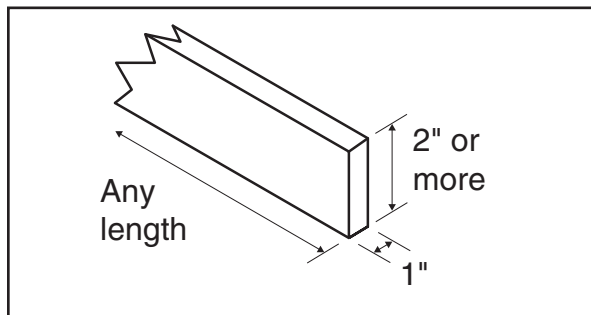

Figure 1. Wood dimensions.
1. Select a dry, straight wooden board of the dimensions shown in **Figure 1**.